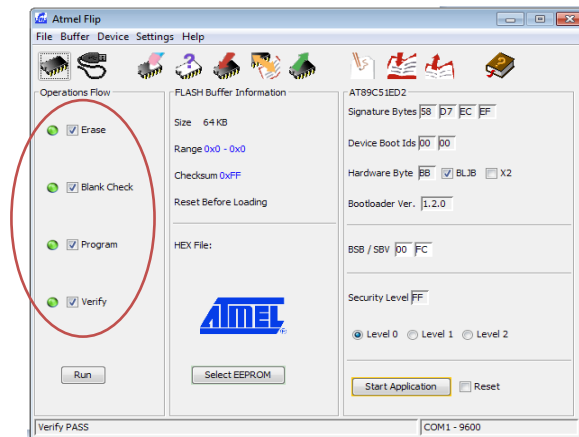

Figure 16 - Successful firmware flash
- 6) Once the PCB has been successfully flashed, the operations will have a green dot next to each option and 'Verify PASS' will appear in the dialogue box at the bottom. The successful screen can be seen in Figure 16.